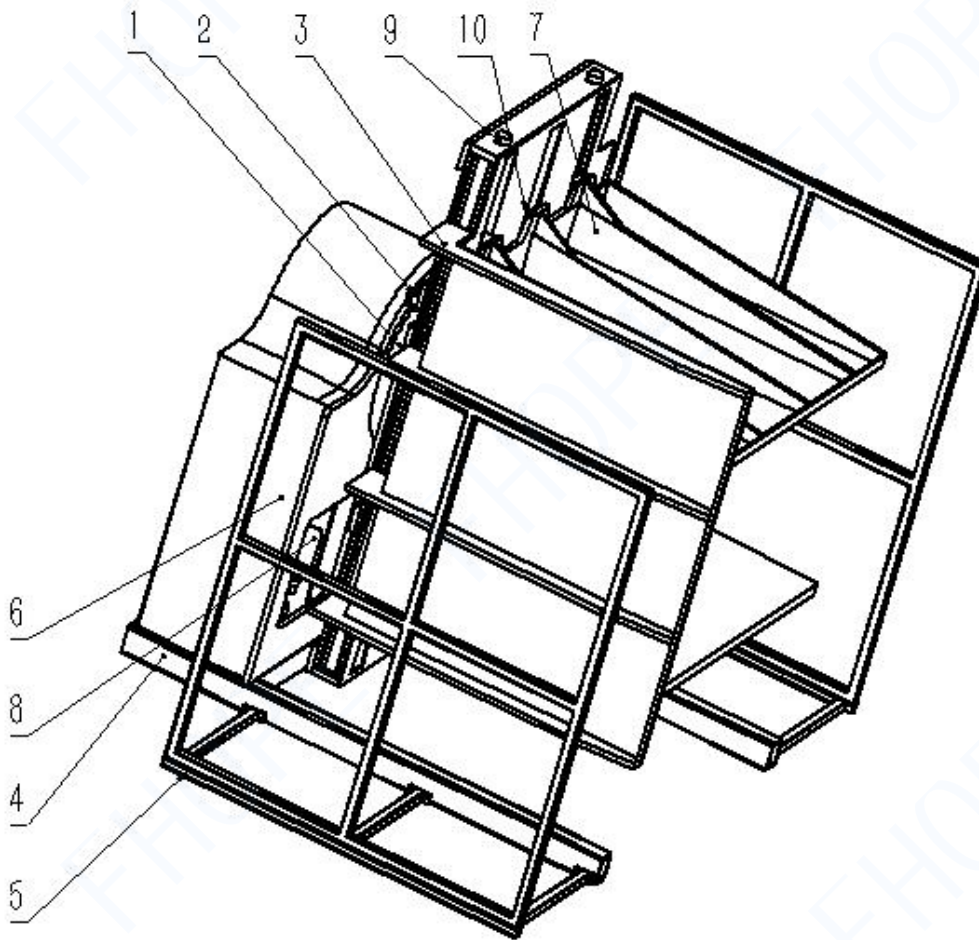

Figure 1
1. Figure 1 shows the main components of the pallet inverter machine.